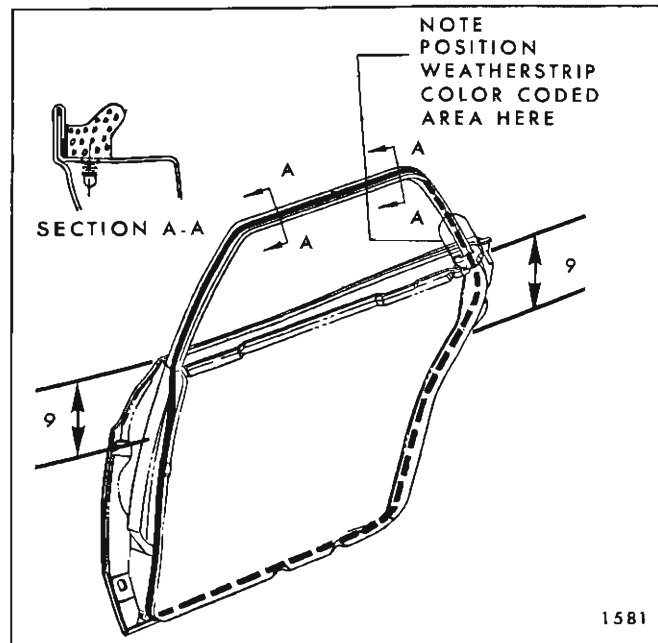

Fig. 1D4—Rear Door Weatherstrip Installation
Door bottom drain hole sealing strips (dust flaps) are attached to door inner panels over door bottom drain holes to prevent entry of dust and cold air at these locations (Fig. 1D5).
The door pull handle is secured to the door inner panel by an exposed screw inserted through the base of the handle, and a clip that engages the trim finishing panel at the top (Fig. 1D6).
1. Insert end of a flat-bladed tool under edge of door trim moldings and pry front and rear moldings off retainers (Fig. 1D7).